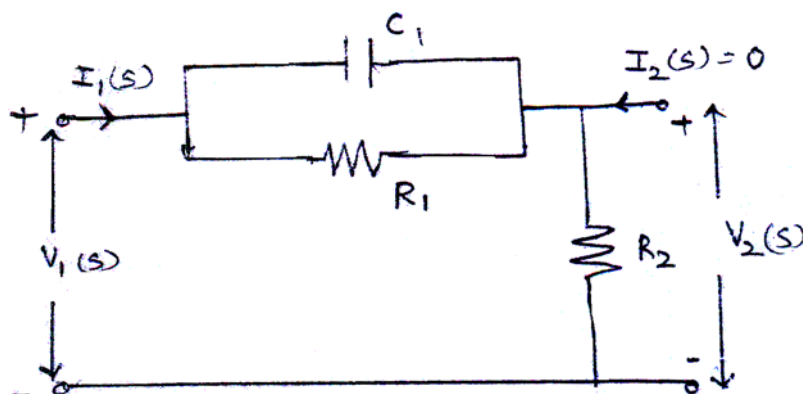

Figure 3 Q. 2(c)
c) Find out the voltage transfer function of the network shown in figure 3.